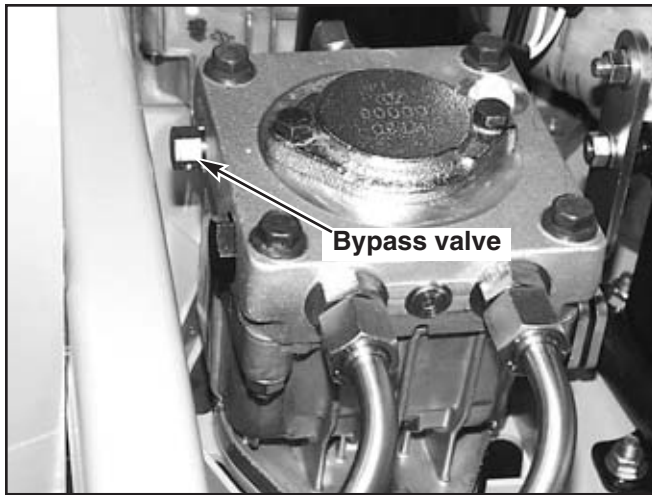

Figure 11-27
3. Open the hydraulic pump's bypass valve (Fig. 11-27), on the side that is being adjusted, by turning bypass valves counter clockwise one-half to one revolution. The valve stems on each hydraulic pump are located near the top and are identified as a hex stud.